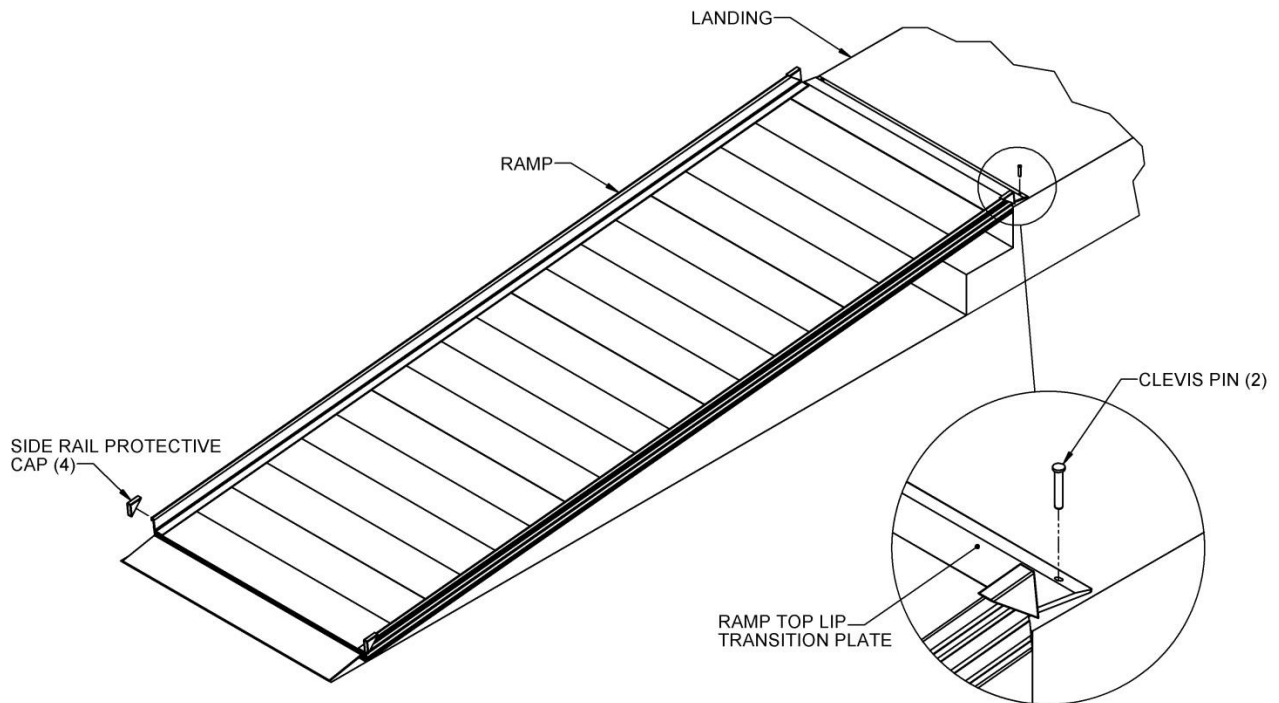

FIG. 3
3.4.2. Insert the supplied clevis pins through the holes in the top lip transition plate and extending into the holes drilled in the previous step (FIG. 3).
3.5. Install protective caps over side rail corners by placing one cap on each side at both the top and bottom of the ramp. If necessary, use construction adhesive to bond the cap to the ramp. (FIG 3.).